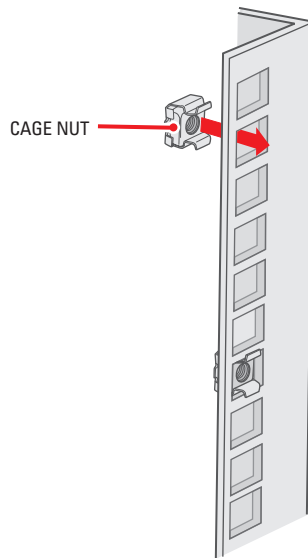

Figure 7. Inserting Cage Nuts
5. If installing the unit into a square-hole rack: Insert 10 cage nuts (supplied) into the square-hole rack as shown in Figure 7.